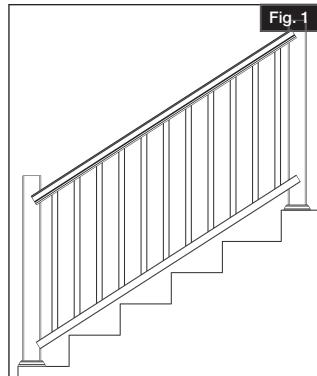
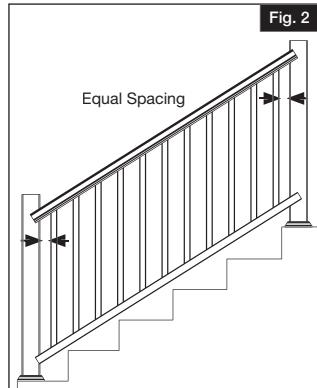
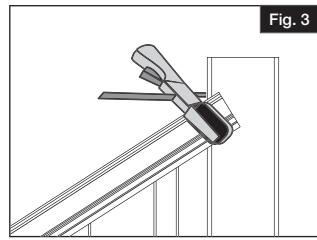

Fig. 1
Fig. 2
Fig. 3
- 1** Place assembled stair rail section adjacent to the mounted stair posts (Fig. 1). Measure the distance from the first and last baluster to the top and bottom posts making sure distance is equal on both sides of stair rail section (Fig. 2). Clamp into place (Fig. 3).